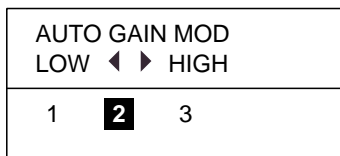

Figure 1-5 Dialogue for automatic adjustment of gain
1. Press the [GAIN] key once or twice to display the screen shown in Figure 1-5.